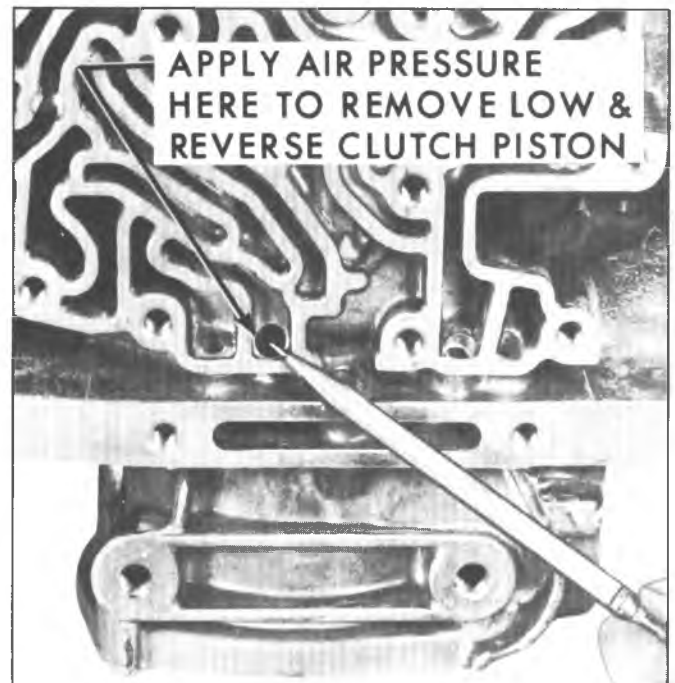

Fig. 47M--Removing Low and Reverse Clutch Piston
23. Remove low and reverse clutch piston assembly by applying compressed air in passage shown on Figure 47M.